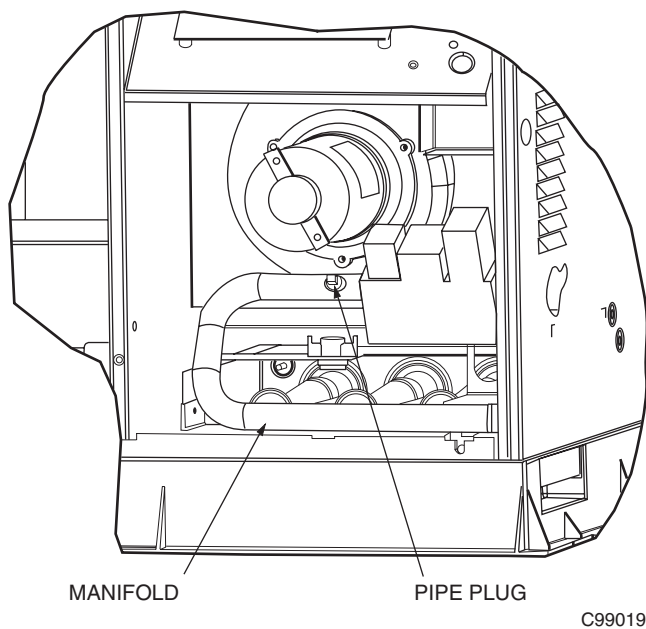

Fig. 16—Burner Assembly
2. Remove pipe plug on manifold (See Fig. 16) and connect manometer. Turn on gas supply to unit.